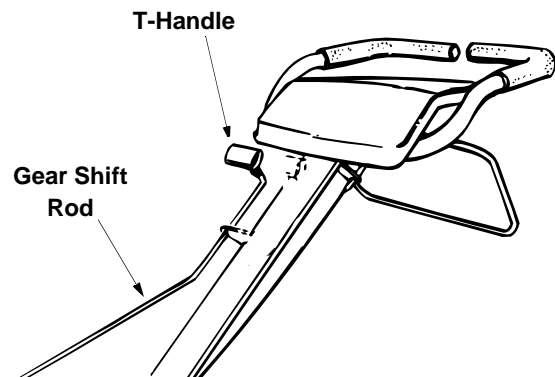

Figure 7
1. Remove the T-handle, nut, hairpin clip, flat washer and rubber washer from the end of the gear shift rod. Slide the rod up through the bracket on the front of the handle assembly. See Figure 7.